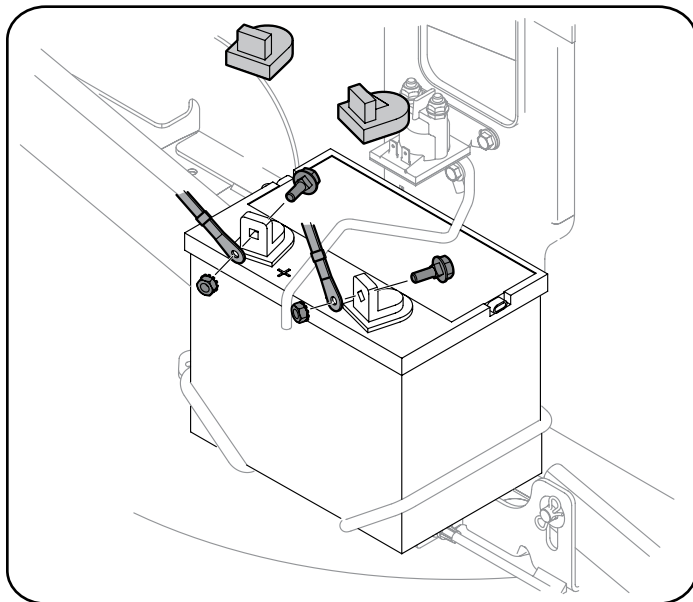

Figure 14
- Remove the plastic cover, if present, from the negative battery terminal and attach the black cable to the negative battery terminal (-) with the remaining hex bolt and hex nut, using a 7/16 inch wrench and socket wrench. See Figure 14.